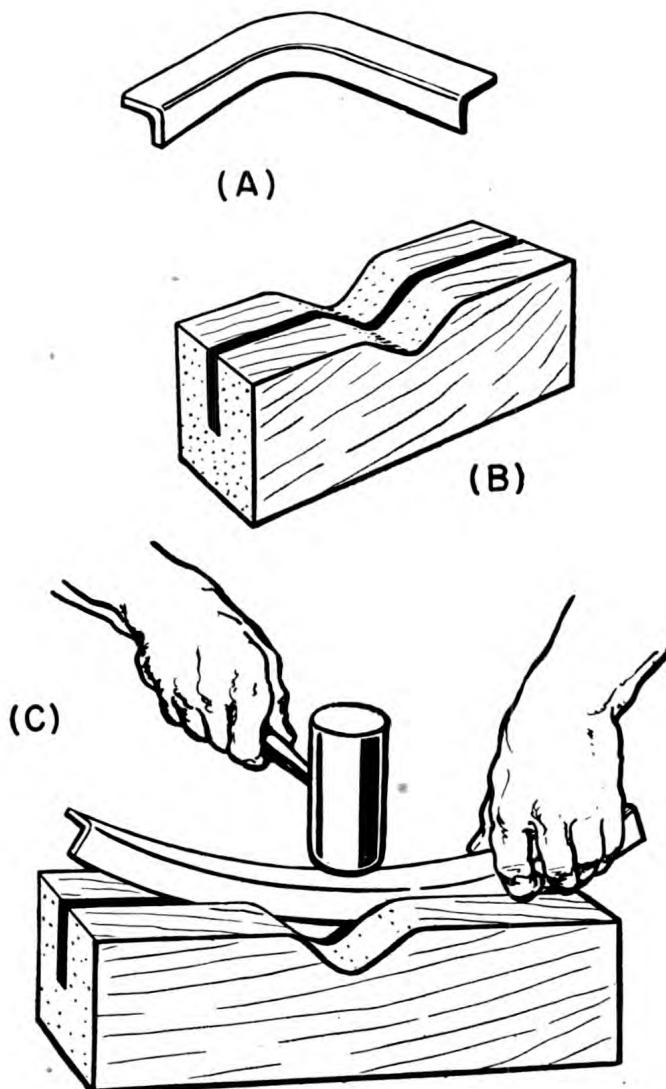

Figure 44.—Stretching an angle strip into a curve.
An angle strip can be stretched into a curve like that of (A) in figure 44 by stretching one of its bent flanges. Do this kind of stretching on a V-block, shown in (B), which has a slot to accommodate the angle and a V-shaped opening over which to hammer the metal.
To shrink a piece of metal you have to CRIMP the edge, then hammer out the crimp. Suppose you want to bend an angle strip in a direction opposite to that shown in (A) of figure 44. It would not look like drawing (A) of figure 45.